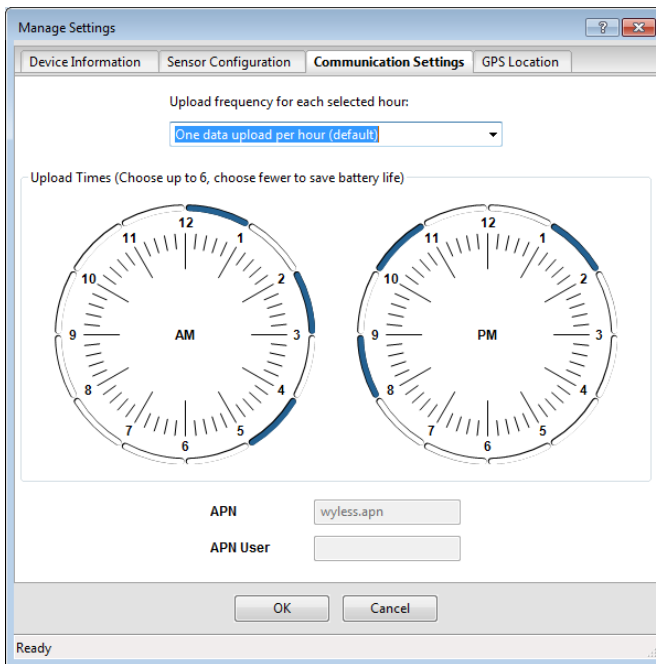

Figure 6 Communication Settings tab
11. Navigate to the Communication Settings tab (Figure 6).